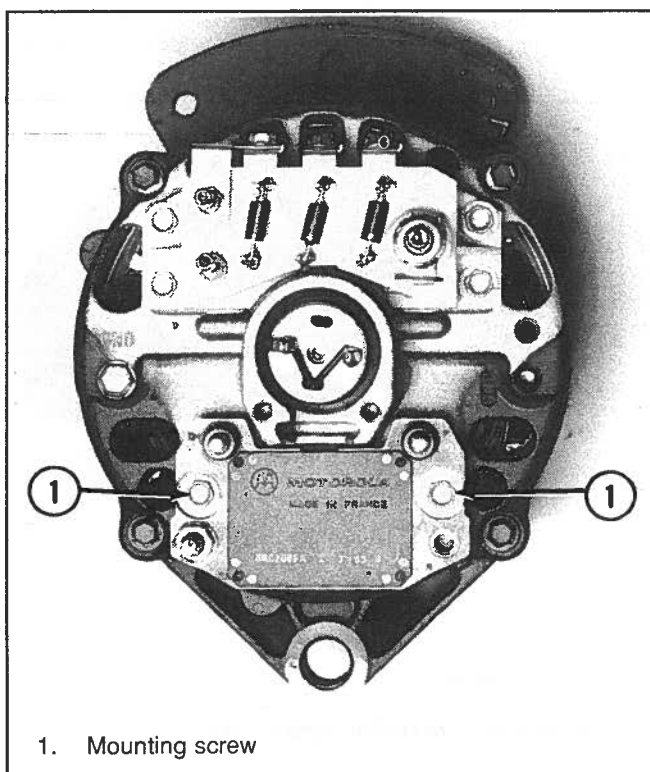

Figure 6-90. Installing Regulator Assembly
10. Install the regulator assembly (Figure 6-90) on the rear housing with the two mounting screws. Tighten to 25-45 lb-in (2.8-5.1 N•m) torque.